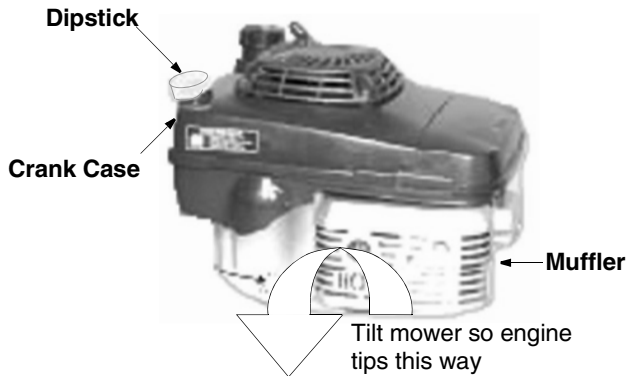

Figure 11
- Tip the mower as shown in Figure 11 below. Remove the dipstick from the engine and pour entire oil from the crank case into an appropriate container.